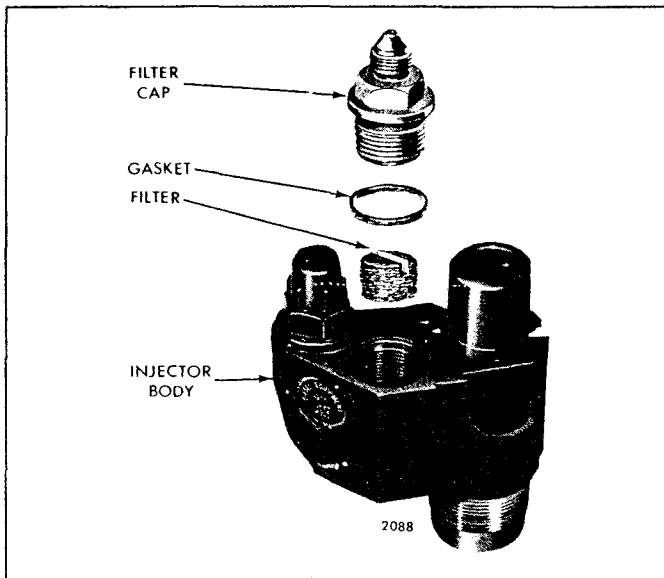

Fig. 26 – Details of Injector Filters and Caps and Their Relative Location
- 2. Insert new filter(s) in the top of the body (Fig. 26). The current production service filter (stainless steel wire mesh pellet) is installed dimple end down, slotted end up. The former service filter (fiberglass-filled nylon cone) was installed with the pointed (cone) end up.